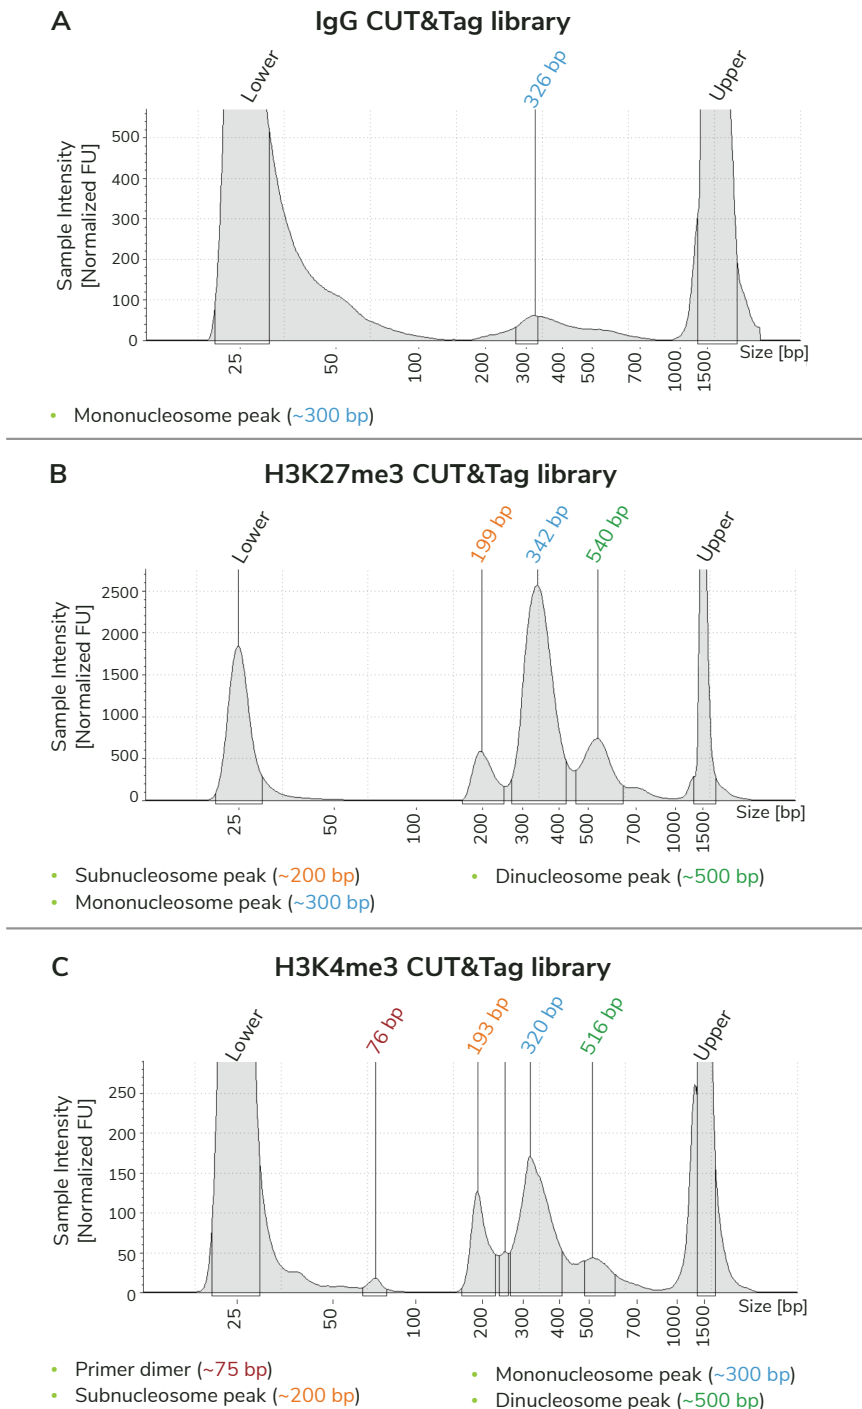

FIGURE 12
73. Use 1 μ L CUT&Tag library for analysis on the Agilent Bioanalyzer (High Sensitivity DNA Kit) or TapeStation (D1000 ScreenTape System). See Expected Results and Figure 12 on the next page.
Traces should show predominant enrichment of mononucleosome-sized fragments, as in Figure 12 (~300 bp: ~170 bp mononucleosomes + sequencing adapters). This is the **BEST** indicator of CUT&Tag success prior to sequencing.